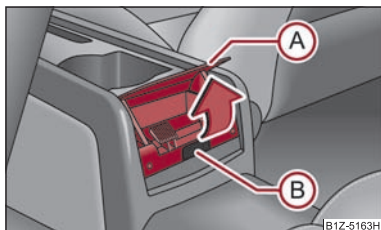

Fig. 84 Low centre console: Rear ashtray
- Grasp the ashtray cover at the lower edge (A) and fold it open in the direction of arrow ⇒ fig. 84.